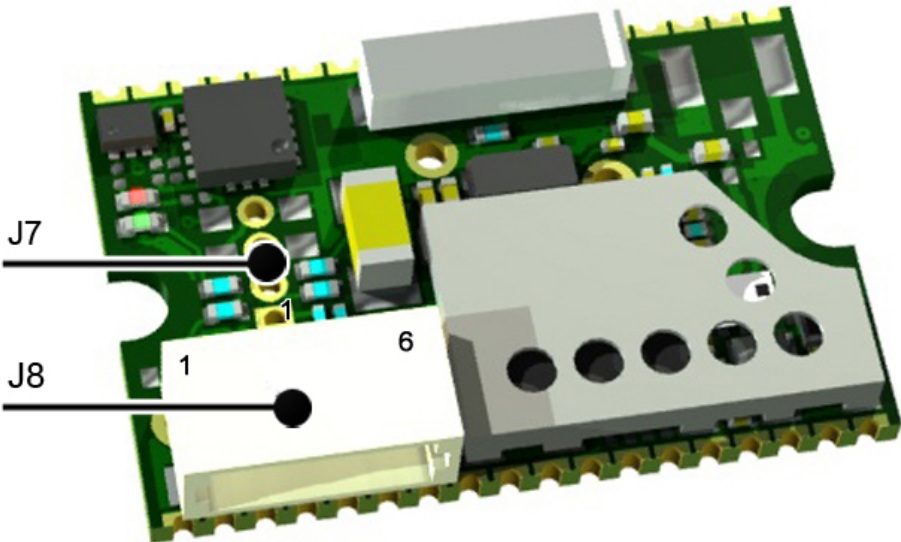

Figure 7: 4x1 through holes row J7 and the JST connector J8 mounted on the component side of the PCB.
- Via the JST connector, J8 (see Figure 7).
- Via the 4x1 through holes row J7 (see Figure 7) for solder wires or through holes components to the board (1.27mm pitch).